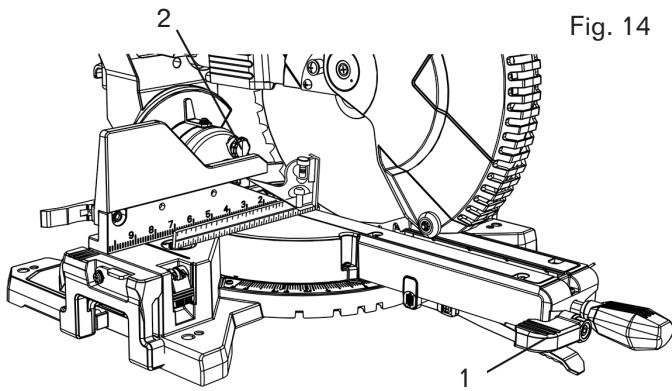

Fig. 14
33.9° Right Bevel Adjustment (Fig. 14, 15)
2. Loosen the bevel locking handle (1). (Fig. 14)
3. Tilt the cutting arm to the 33.9° right position stop by pushing in the 33.9° bevel detent pin (2). (Fig. 14)
33.9° Left Bevel Adjustment (Fig. 14, 16)
3. Tilt the cutting arm to the 33.9° left position stop by pushing in the 33.9° bevel detent pin (2). (Fig. 14)